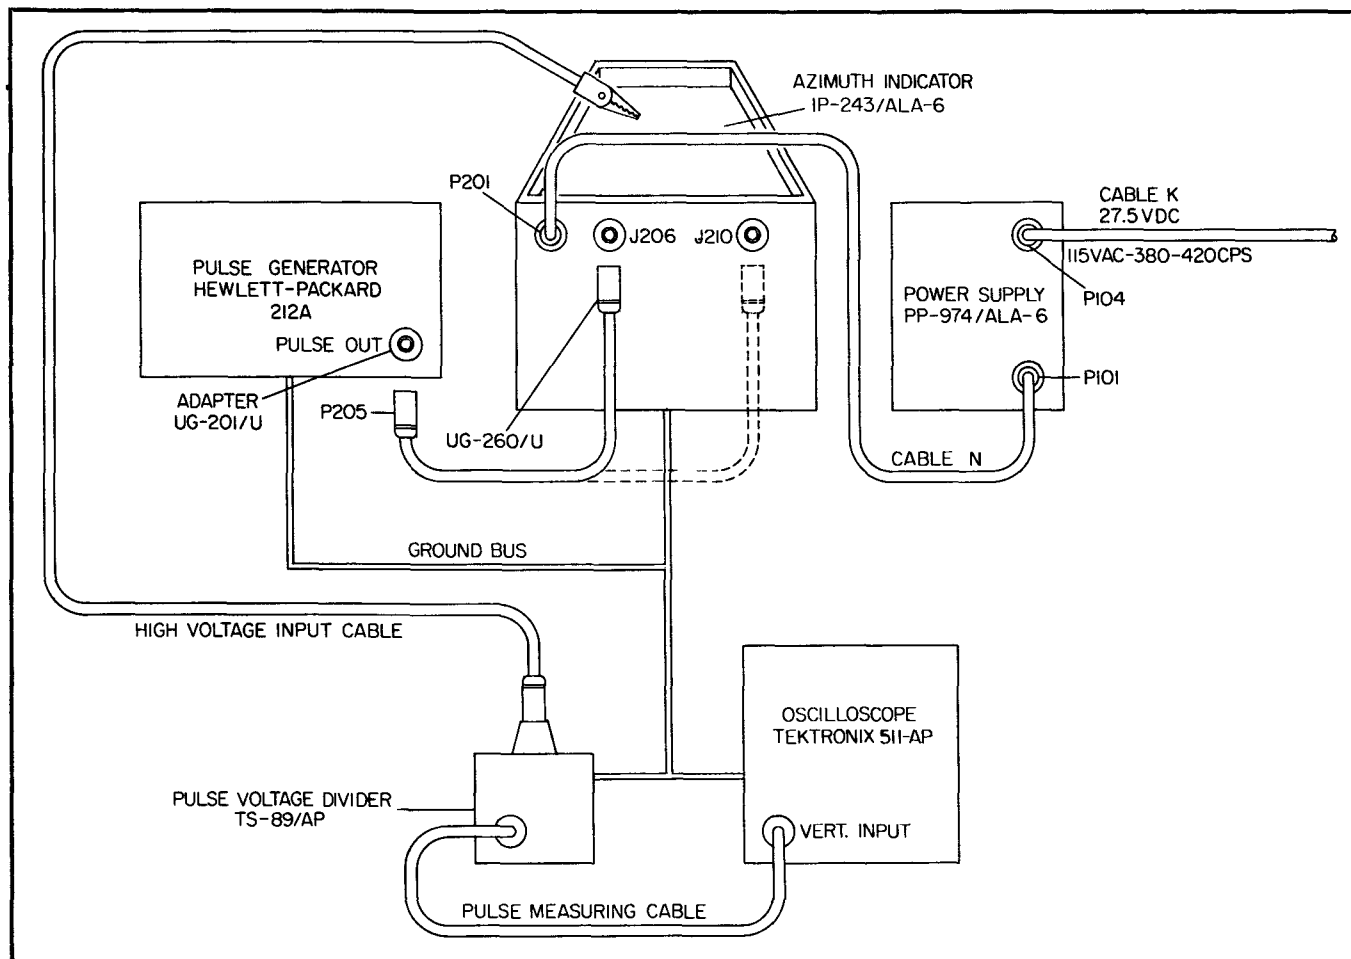

Figure 6-8. Bench-Test Setup, Cathode-Ray Tube Deflection Plate Phasing Adjustments
- Step 1. Set up Direction Finder units and test equipment as illustrated in figure 6-8.